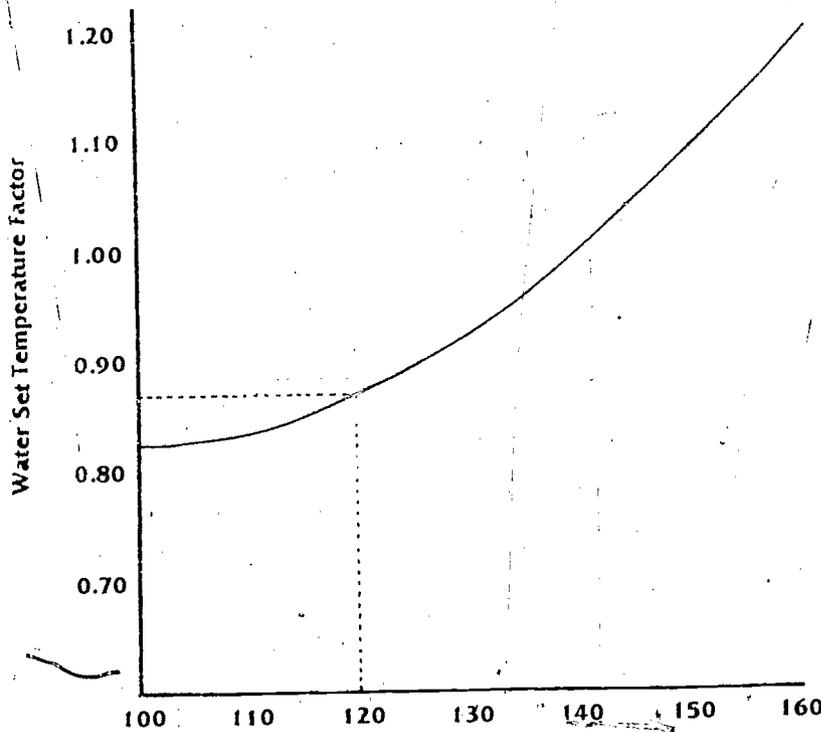

Figure VI-7 EFFECT OF WATER SET TEMPERATURE
Step 6. (S) If the water set temperature is 140°F, the water temperature factor is 1.0. If not, determine from Figure VI-7 the water set temperature multiplication factor (S).
Step 6. The system calculations assumed that the water set temperature is 140°F. Significant savings can be made if the user can satisfy the hot water requirements using water at a lower temperature. For example, if the water temperature can be set at 120°F, there would be a 13% reduction in required collector area. This is illustrated by the dotted lines in Figure VI-7.
6. Choose water set temperature multiplication factor from Figure VI-7.